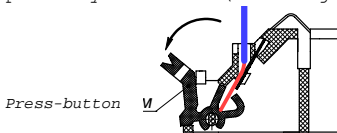

Figure 2
3.3 Install the mounting base V2 into the place specified due to the project and connect it to the wires of the loop according to polarity. Wire connection should have the copper core with section from 0,12 to 1,5 mm2. Press-buttons of 3 and 4 contacts (the marking is made on contact set) are in black for «-» loop connection. Detectors are shipped with press-buttons in pulled position that makes the channel for wire entry available (see Figure 2). For loop connection it is necessary to: